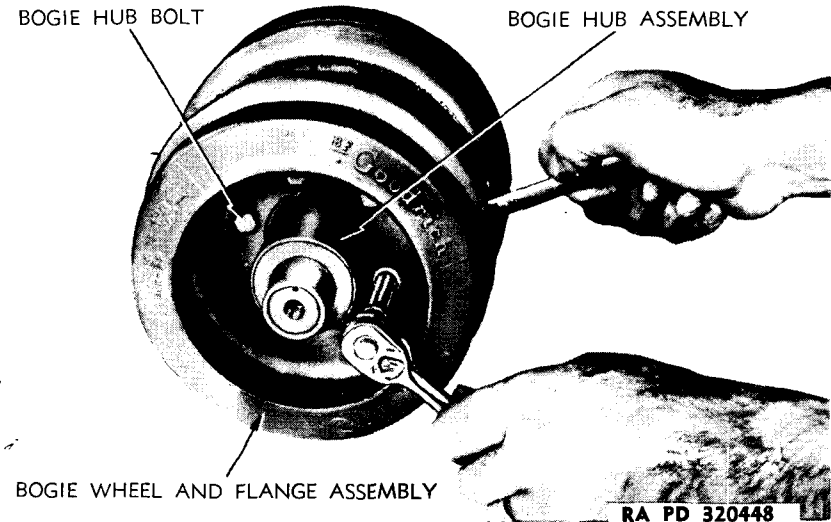

Figure 34 — Removing Bolt From Bogie Wheel and Hub
a. Remove Bogie Wheels. Remove six bolts holding each bogie wheel and guide flange assembly to hub (fig. 34). Place